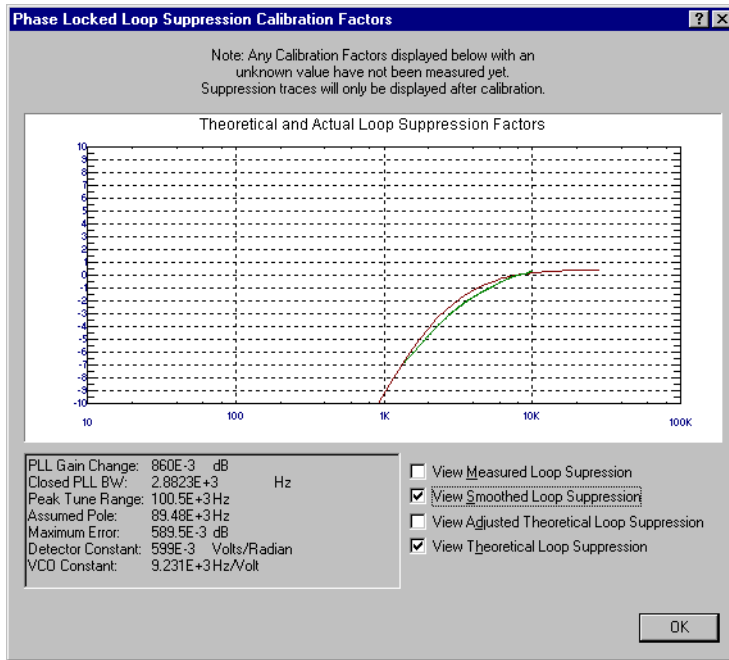
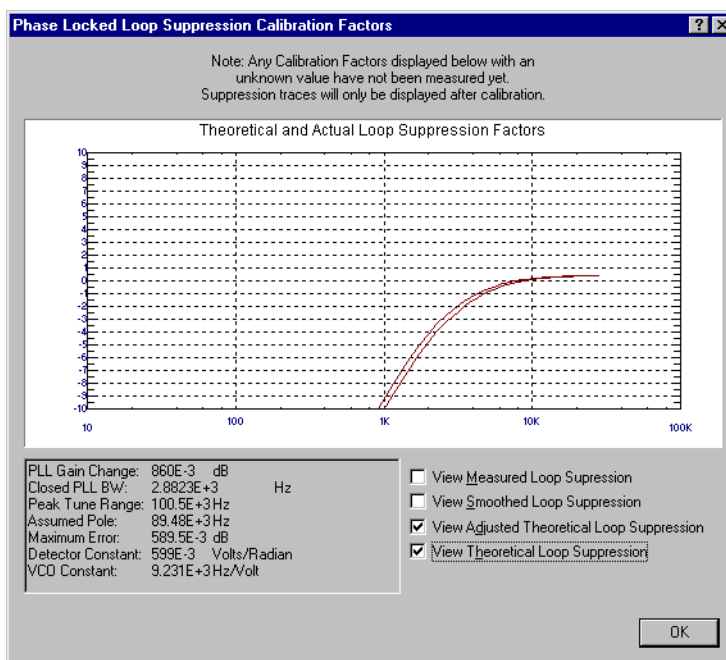

Figure 16-7 Smoothed vs Theoretical Loop Suppression Curve
Figure 16-9 Adjusted Theoretical vs Theoretical Loop Suppression Curve
- 4 “Adjusted” theoretical suppression curve (Figure 16-7 through Figure 16-9) - this is the new “adjusted” theoretical value of suppression for this measurement - it is based on changing loop parameters (in the theoretical response) to match the “smoothed” measured curve as closely as possible.